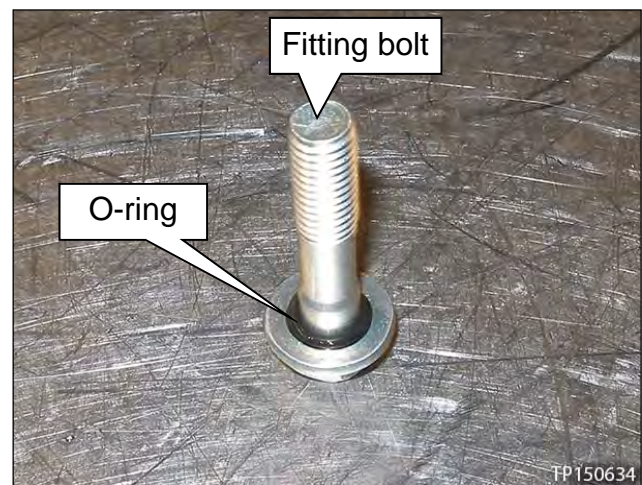

Figure 66
43. Place a new O-ring on the fitting bolt, and coat with CVT fluid (Figure 66).